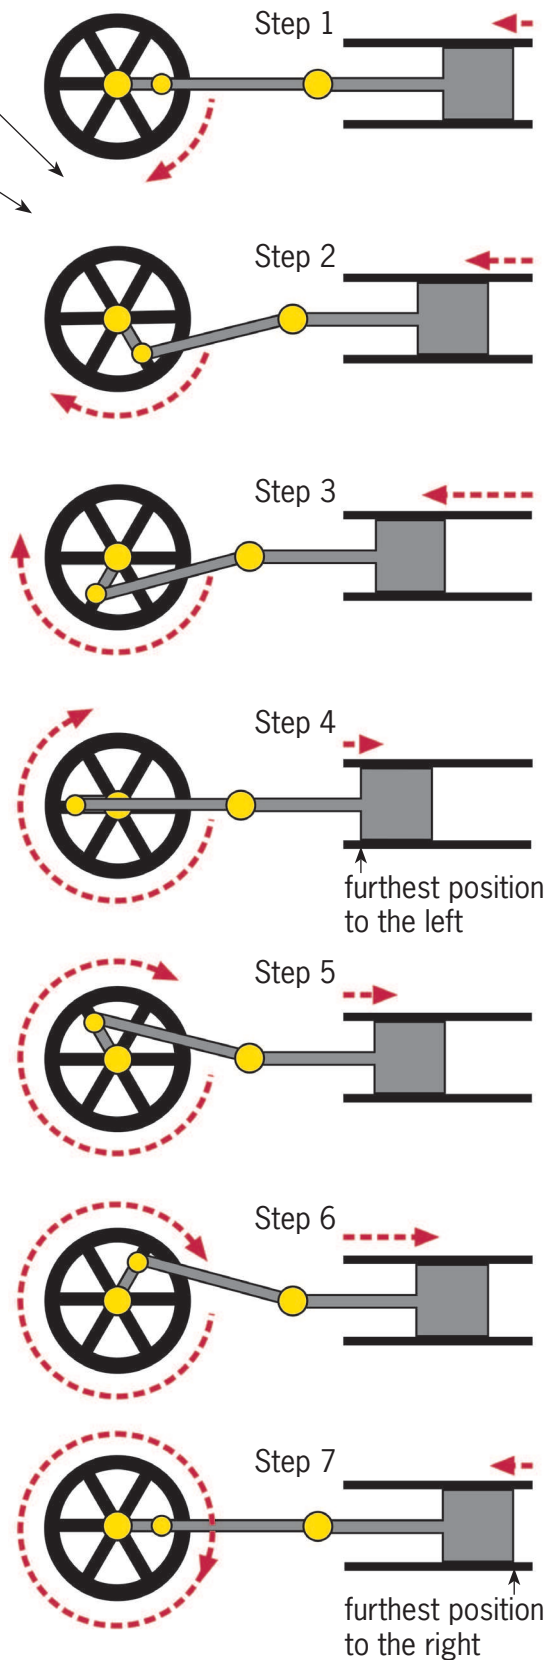

Figure 6: Different steps during the operation of a crank-and-slider mechanism
The different steps in the operation of a crank-and-slider mechanism are shown in the pictures on the right, in Figure 6.
1. How long is the crank throw in the mechanism in Figure 6?
Look again at Figures 6 and 8.